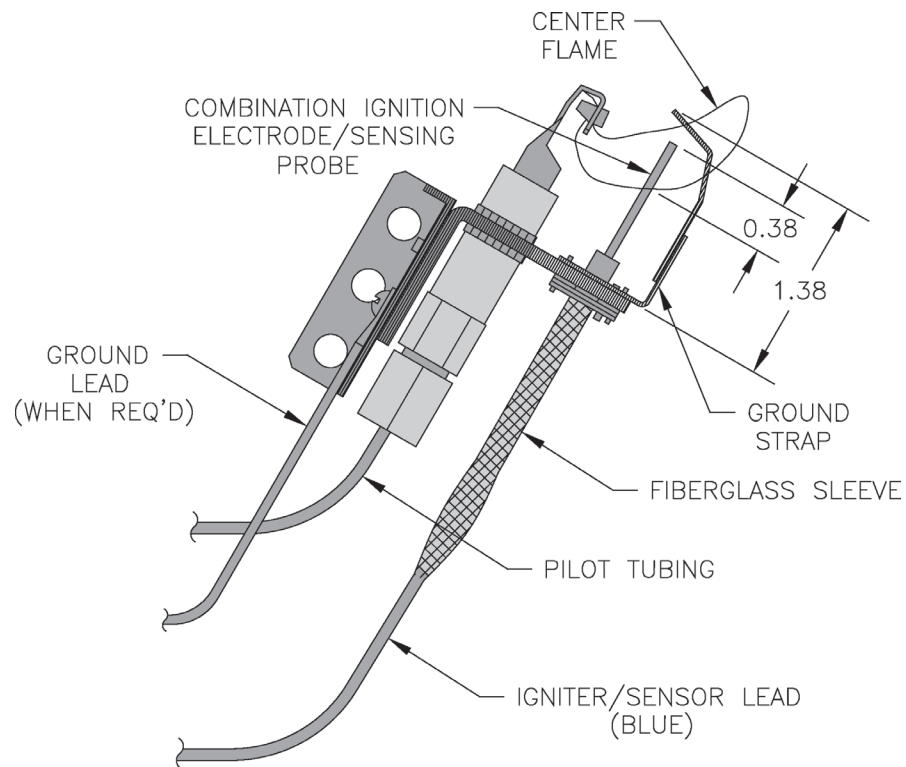

Figure 4: Pilot Burner
4. Check pilot flame. See Figure 4. The pilot produces a single flame. The flame should be steady, medium hard blue enveloping $\frac{3}{8}$ to $\frac{1}{2}$ inch of sensing probe. If flame is yellow and lazy, follow instructions TO TURN OFF GAS TO APPLIANCE (see Figure 2), and contact qualified service agency.